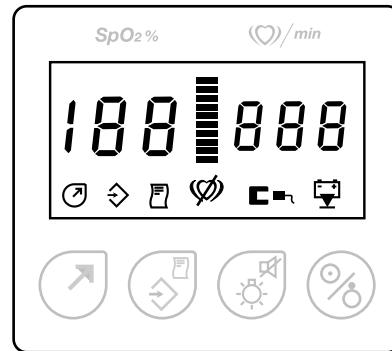

Figure 3-1: NPB-40 Self-Test Front Panel Display
2. The NPB-40 will perform a self-test. Verify that all display segments are lit during the self-test as shown in Figure 3-1. Also verify that a low pitched audio tone is heard at the end of the self test. Also verify that you then hear a high, a low, and a high pitch error tone indicating that a sensor is not connected. Verify that dashes are shown on the display and the SENSOR DISCONNECT indicator is flashing.